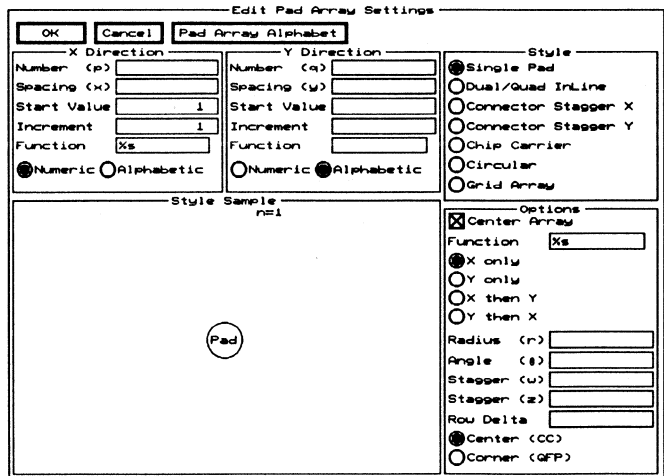

Figure 5-31. The Edit Pad Array Settings dialog box.
1. Select Pad Array Settings. The Edit Pad Array Settings dialog box displays (figure 5-31).